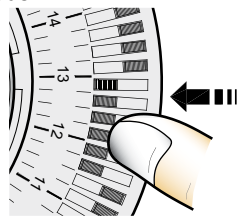

Fig. 6
1. Using your finger tip or the tip of a pencil, push in as many segments as necessary around the dial, according to the times you don't require heat – see Fig. 6. Each segment pushed in switches the heater OFF for that part of the hour. All other segments will be 'ON'.